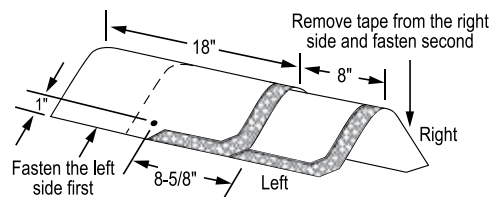

Figure 18-16: Installation of Shangle Ridge shingle on hips and ridges.
7. Fasten each cap with two fasteners (see Figure 18-16). The fasteners must be 1 3/4" (45 mm) long, or longer, so they penetrate either 3/4" (19 mm) into the deck or completely through the deck, exposing at least 1/8" (3.2 mm) of the tip of the nail. Expose 8 (203 mm) of the accessory along the ridge or hip line and cover all fasteners.